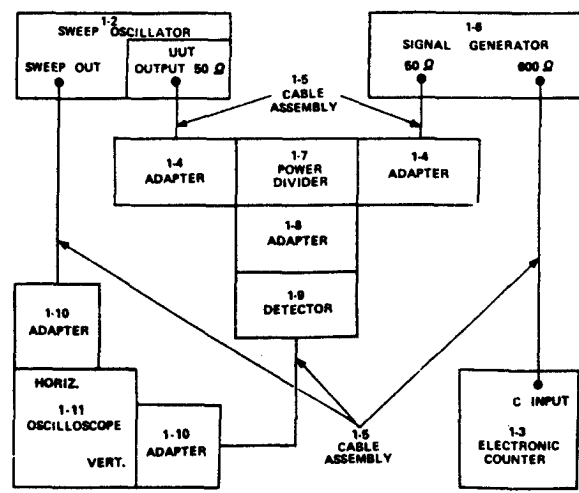

Figure 6-2. Linearity measurement, equipment setup.
(1) Connect equipment as shown in figure 6-2.
(2) Position sweep oscillator controls as follows: